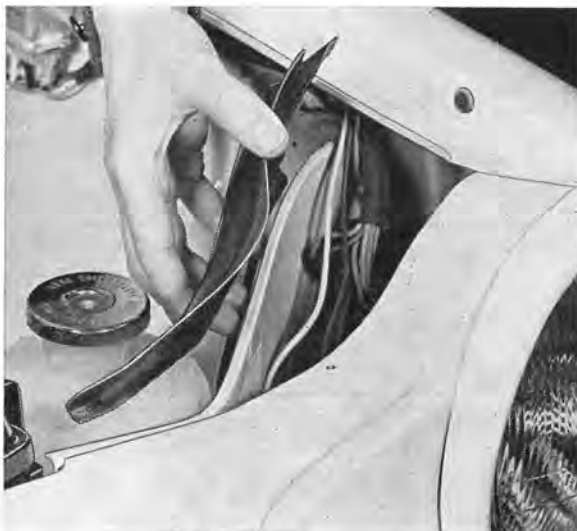

Fig. 3-73. Removing plastic cover
1. Remove the screw and take off the plastic cover over the space behind the headlight, see Fig. 3-73.
1. Remove the screw and take off the plastic casing over the space behind the headlights, see Fig. 3-73.